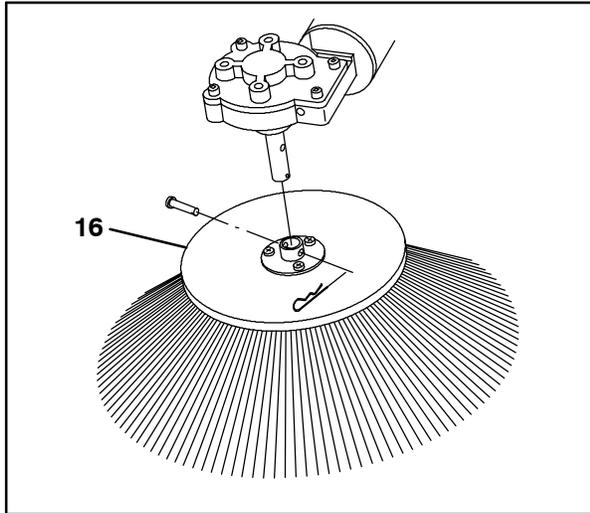

FIG. 11
28. Install the side brush (16) onto the pre-sweep assembly (15). Refer to Fig. 11.